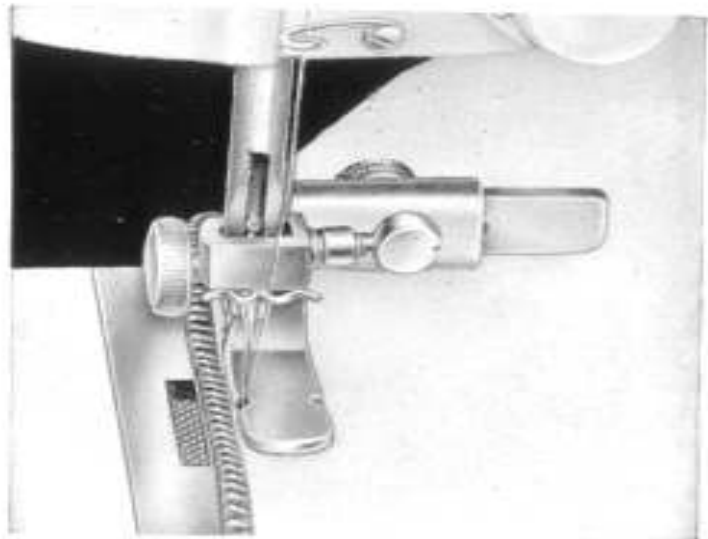

Fig. 39
3. Fig. 39 shows the Zipper Foot set to sew on the right of the needle and close to the edge of the fabric.